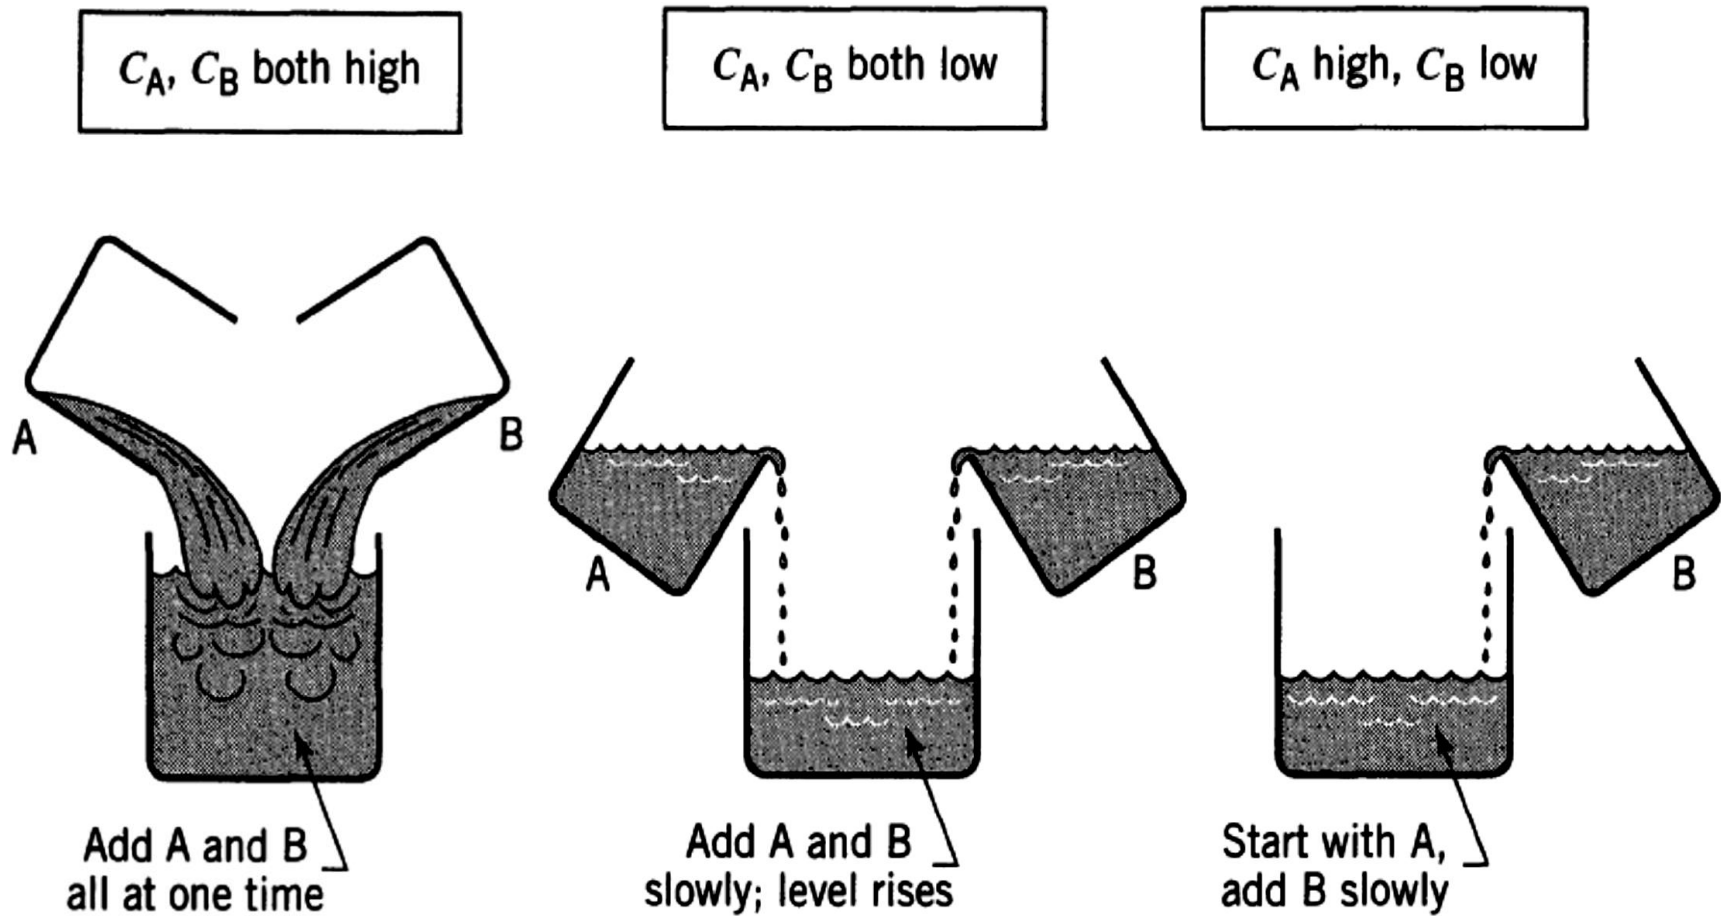

Figure 8-1 Contacting patterns for various combinations of high and low concentration of reactants in non-continuous operations
- Figures 8-1 and 8-2 illustrate methods of contacting two reacting fluids in non-continuous and continuous operations that keep the concentrations of these components both high, both low, or one high and the other low.